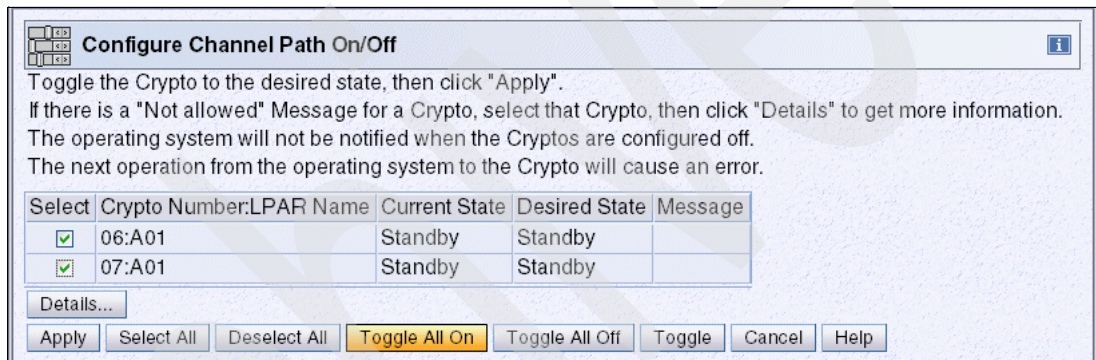

Figure 8-34 SE Crypto Config On/Off (Toggle All On)
3. Select the crypto channel numbers you want, click **Toggle** to switch from Standby to Online in the desired state. If you choose multiple crypto channels at the same time, click the **Toggle All On** option as shown in Figure 8-34 on page 360.